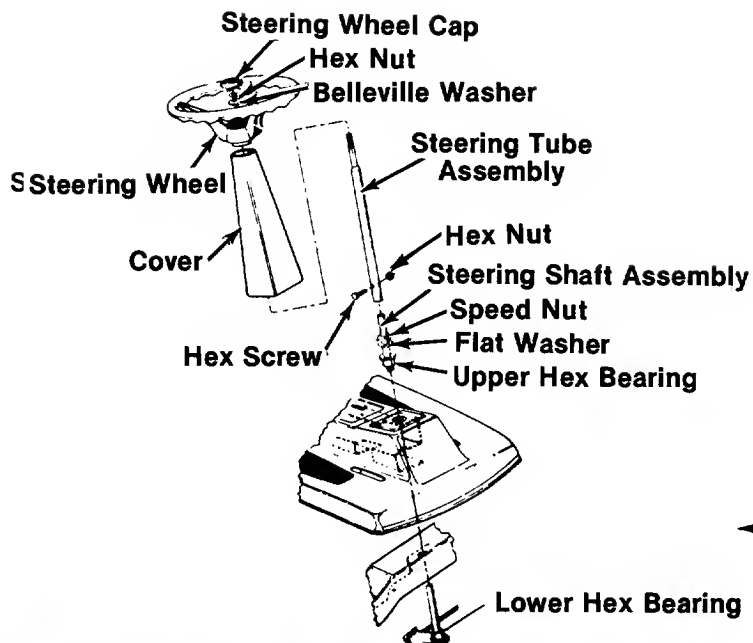

FIGURE 1. STEERING ASSEMBLY
STEERING WHEEL ASSEMBLY (See figures 1, 2 and 3)
1. Check the upper and lower hex bearings. Be sure they are seated and in position. See figure 1.